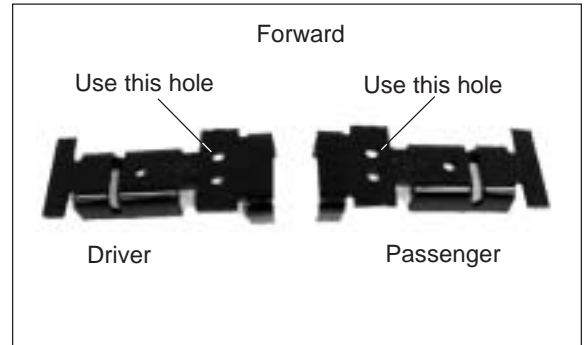

Figure 4
4. LOOSELY install the 3/8" lock washer (O) and 3/8" x 7/8" hex head cap screws (N). Leave loose to allow installation of the upper bracket.
5. Attach the lower bracket (D) to the bottom of the air spring. Use the forward, inboard hole as shown in Figure 4.